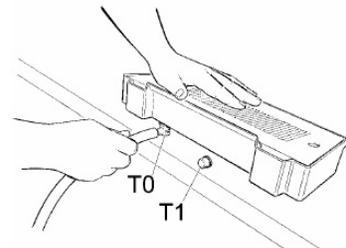

FIGURE 29
37. If the drip tray has a coupling (T0, FIGURE 29) it is possible to drain the water in the drip tray without removing it. In order to do that proceed as follows:
- Remove the tap (T1, FIGURE 29).
- Connect a tube to the coupling (T0, FIGURE 29).